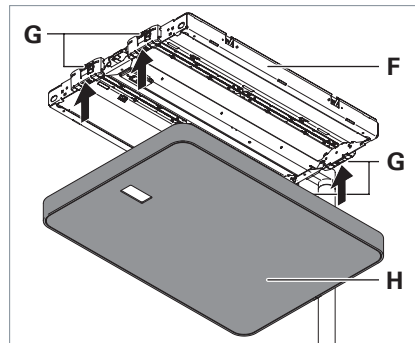

Fig. 3: Mounting the cover frame.
- Press the cover frame **H** from below on the light chassis **F** until the cover frame has locked into place in all four detent hooks **G**, see Fig. 3.